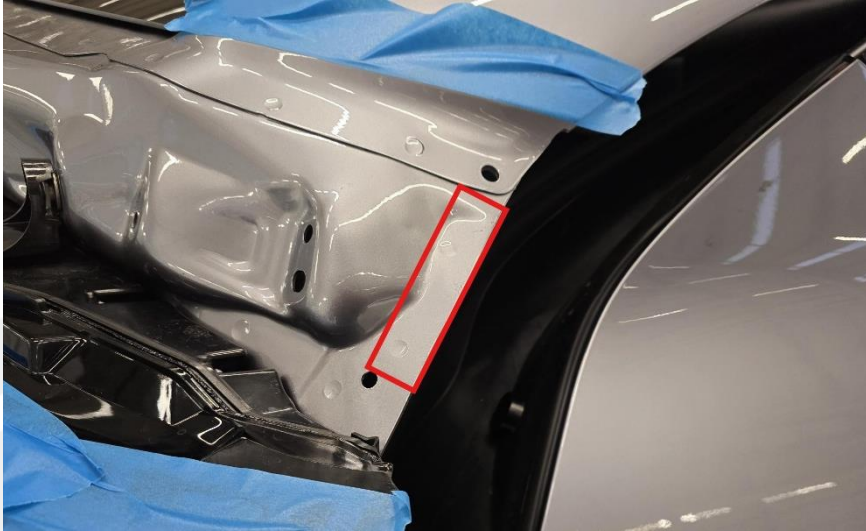

Figure 1 – RH shown, LH similar.
2. Clean the LH and RH edges of the liftgate with IPA wipes, and then allow 1 minute to dry (Figure 1).